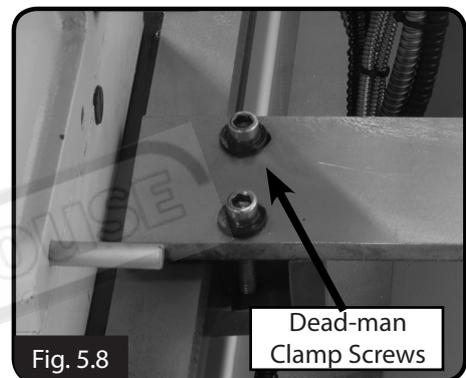

Fig. 5.8
When the cap screws (Figure 5.8) are used to clamp the dead-man clamp against the bedway, the taper turning attachment is engaged.
3. Using an hex wrench, tighten both the dead-man clamp cap screws so the dead-man clamps against the lathe bedway (Fig. 5.8).